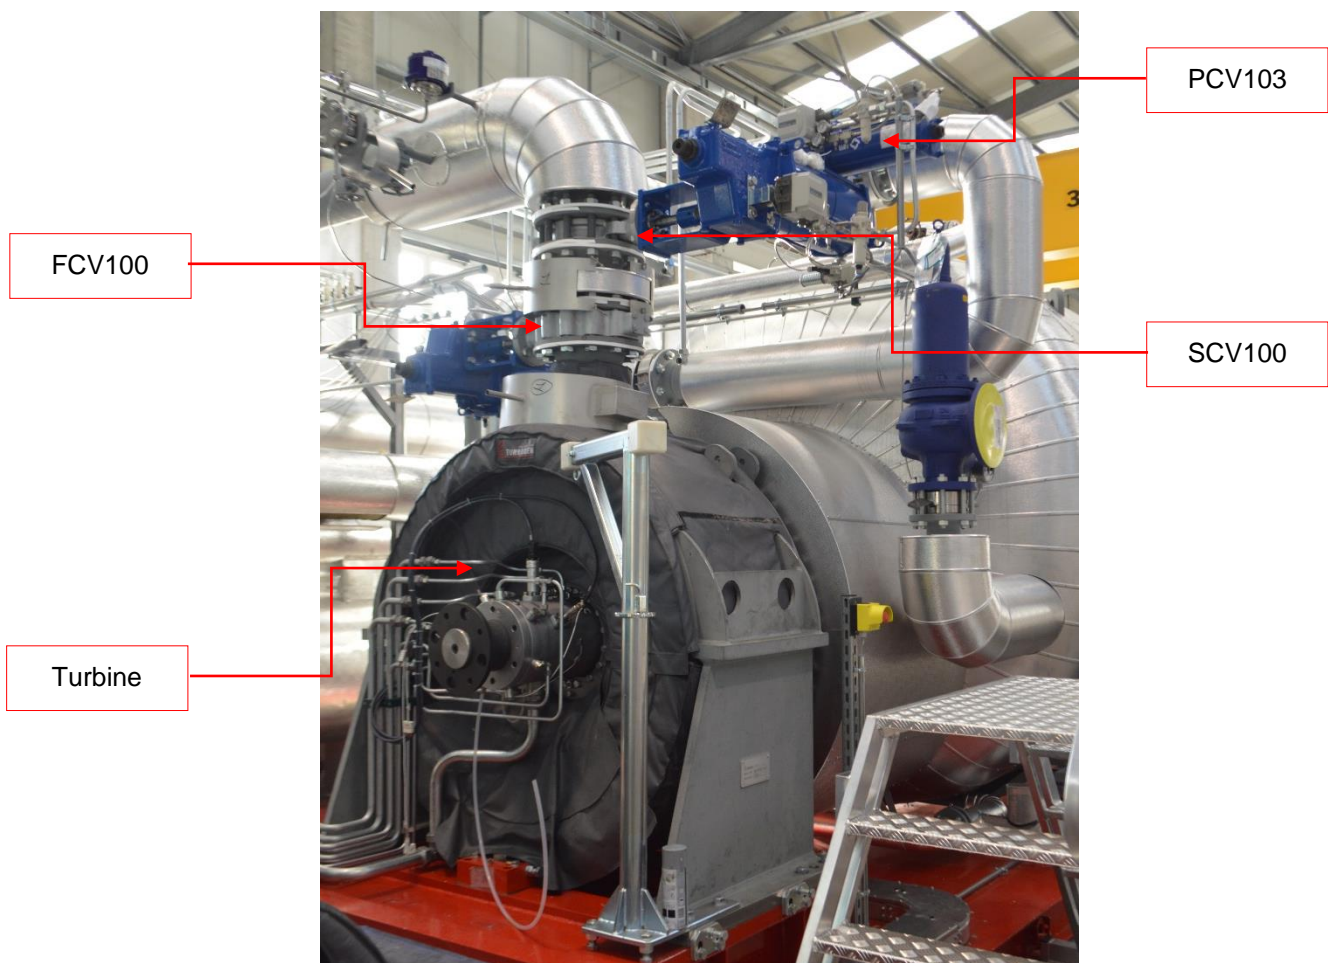

Figure 9.3-1: FCV100, SCV100, PCV103 valves.
- **Turbine vapour expansion** (FCV100 shut-off valves and SCV100 inlet valves are open, PCV103 bypass valve is closed, see Figure 9.3-1); in this configuration, the steam will flow fully into the turbine, which transforms the enthalpy drop entirely into mechanical energy; the electric generator is connected rigidly to the turbine via a connecting joint which then transforms the mechanical energy into electrical energy.
- **Vapour lamination** (PCV103 by-pass valve is open, FCV100 shut-off valve and SCV100 inlet valves are closed, see Figure 9.3-1): in this configuration during start-up, shut down and emergency stop phases, the fluid will reach the regenerator without having to go through the turbine. The vapour lamination line by means of the PCV103 valve can also be activated in case of system overload, in order to limit the evaporator pressure.